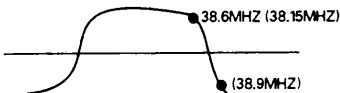

Fig 6.
- 1: Adjust L602 so that 39.5MHz (38.5MHz) waveform on the adjustment scope may be as shown in fig. 6.